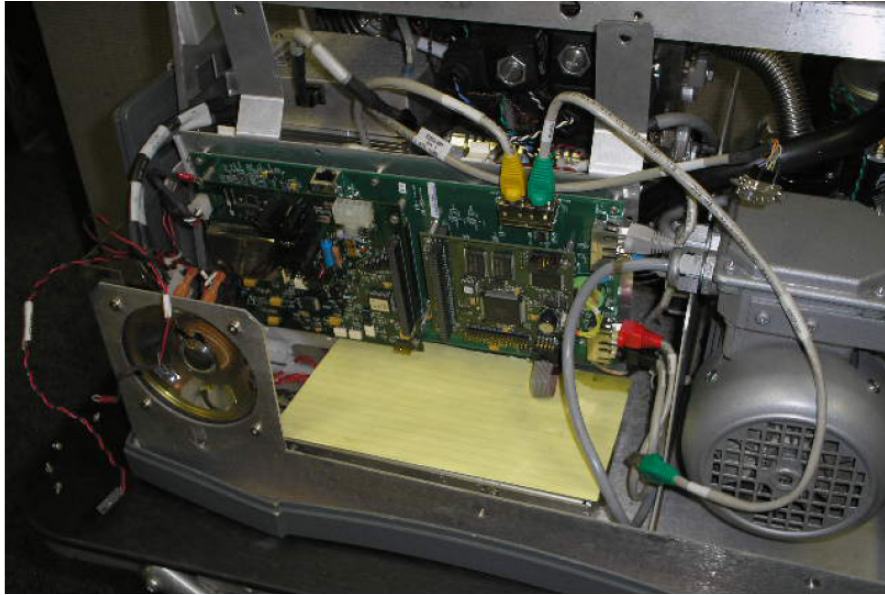

Figure 1-6 Paper In Place
8. Fold a piece of 8 ½ by 11" paper in half and slide it over the open vents of the 24 VDC power supply (Figure 1-6). Use some scotch tape to hold the paper in place during the disassembly.